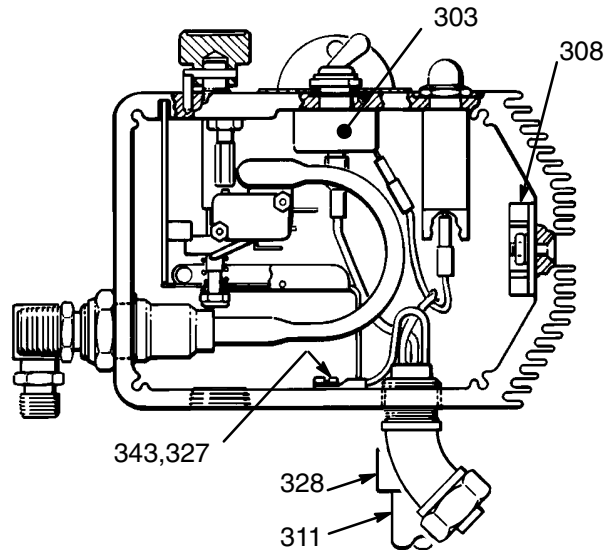

Fig 26-1
Refer to Fig 26-1.
2. Use a needle nose pliers to disconnect the upper terminal wire from the microswitch (302) for ease in removing the ON/OFF switch (303). See Fig 26-1.
3. Use pliers to disconnect the two black wires from the ON/OFF switch (303). Refer to Fig 26-1.
4. Use a 5/8" socket wrench to loosen and remove the nut and rubber boot (304) from the top of the pressure control. Remove the switch guard (305).
6. Install the new switch so the internal tab of the anti-rotation ring (W) engages with the vertical groove in the threads of the switch, and the external tab engages with the blind hole (D) of the pressure control.
7. Install the switch guard (305), aligning the internal tab with the groove in the threads.
8. Powder the inside of the rubber boot (304) with talcum, then shake excess out of boot.
10. Reconnect the wires to the ON/OFF switch (303) and reconnect the wire to the microswitch (302).